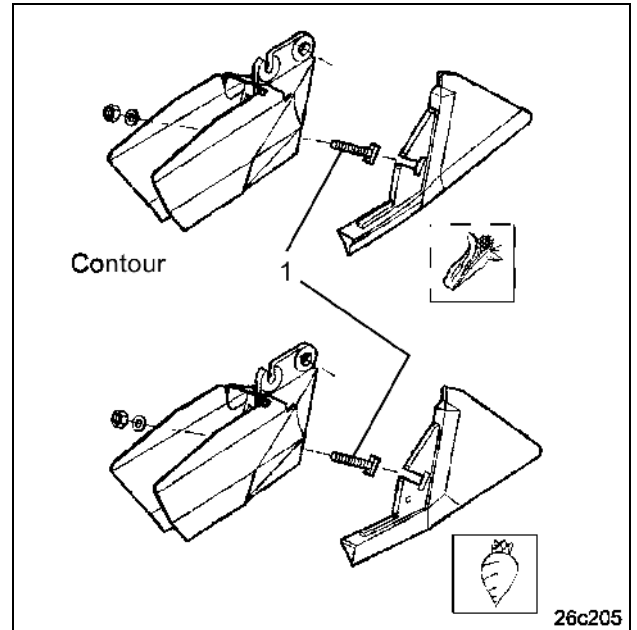

Fig. 199
- Slacken the bolt connections (Fig. 199/1)